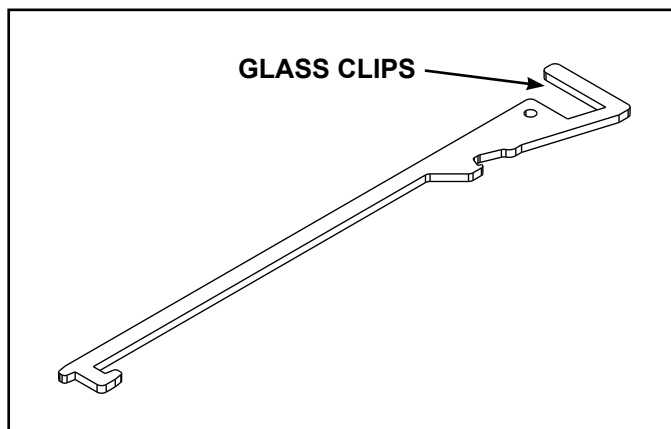

Figure 4.1 Mult-Purpose Tool
- To release glass assembly, use the supplied multi-purpose tool. See Figure 4.1. While supporting the glass assembly, pull the two bottom spring-loaded latches forward and allow them to retract away from the glass assembly. Tilt the bottom of the glass assembly outward until the top latches disengage.